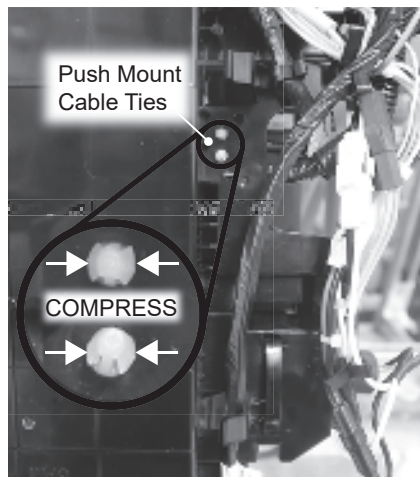

Figure 25 - Push mount cable tie removal.
24 Locate the two (2) push mount cable ties on the back of the control board. See Figure 25. Use a pair of pliers to compress tabs and push them out of the keeper holes.
25 Disconnect the push mount cable tie as shown in Figure 25.